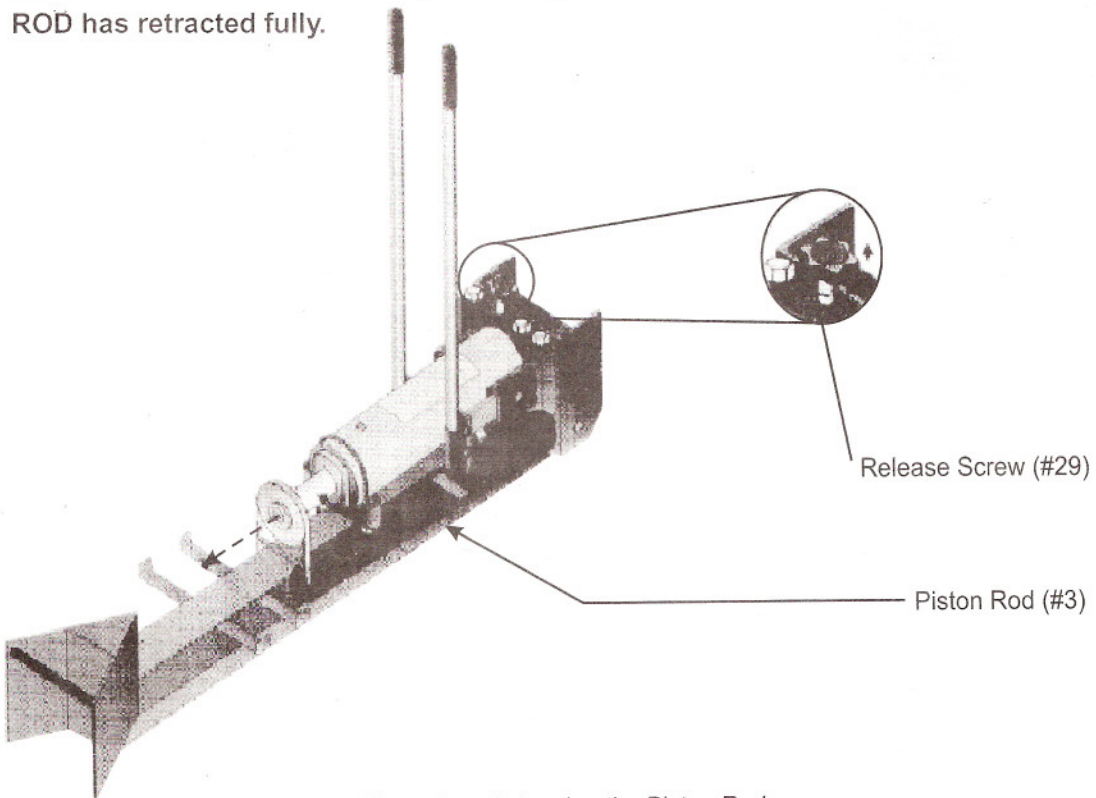

Figure 3 - Retracting the Piston Rod
Step 8: Turn the RELEASE SCREW counterclockwise to draw the PISTON ROD back into the CYLINDER as shown in Figure 3. Tighten the RELEASE SCREW when the PISTON ROD has retracted fully.